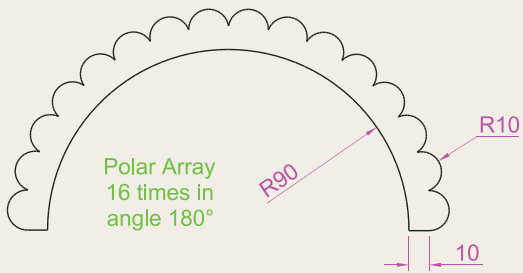

Fig. 5.56 Exercise 10
10. Construct the drawing Fig. 5.56. All parts of the drawing are plines of width = 0.7. The setting in the **Array** dialog is to be **180** in the **Angle of array** field.